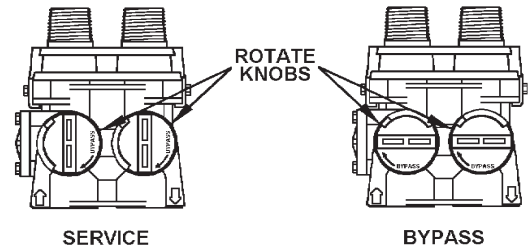
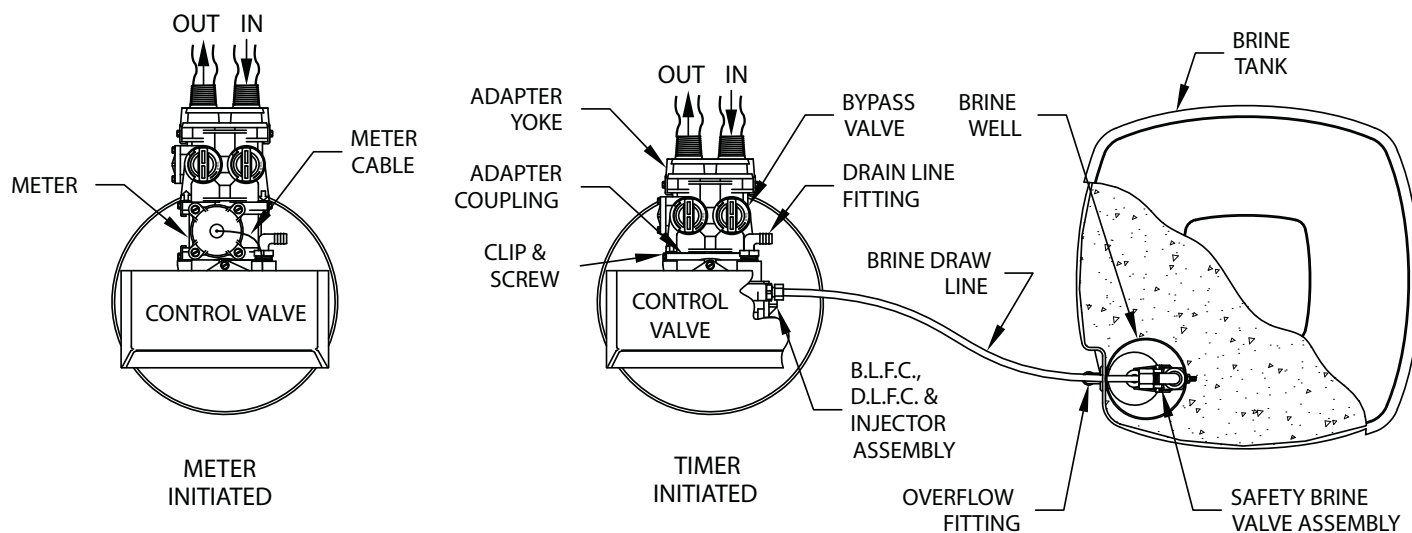

Figure 2. BYPASS VALVE
Figure 3. Water Softener and Brine Tank Assembly, Top View
- Attach bypass valve (Figure 2) using adapter couplings, clips and screws to control valve (Figure 3). On meter initiated models, attach meter between bypass valve and control valve (Figure 3). Ensure the bypass valve is placed into the bypass position as shown in Figure 2 until instructed to place into the service position.
Connect one end of the 3/8" poly line to brine valve located on the right side of control valve. Connect other end to elbow inside of brine well. Brass sleeves and plastic ferrules must be used where necessary. (See Figure 3 and Control Valve Parts Drawing, Section 6.)
Install overflow line to brine tank overflow fitting (Figure 3). Discharge of line must be lower than overflow fitting. Do not interconnect overflow line with valve drain line (Step 6).